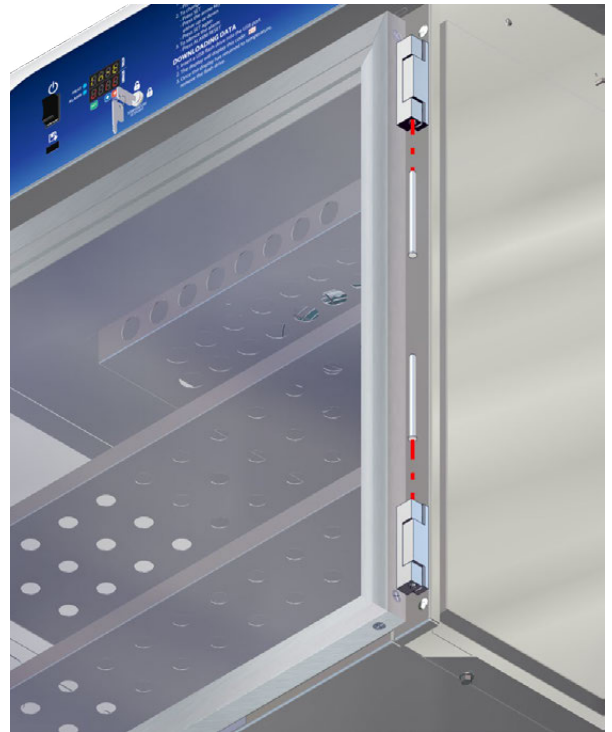

Fig. 45: Remove Door Hinge Pins
1. Using a drift pin (or a small headed screwdriver) and a hammer, detach the glass door from the unit by tapping lightly on the hinge pins, driving them through the two halves of the hinges. Then pull the door away from the unit to remove it (Fig. 45).